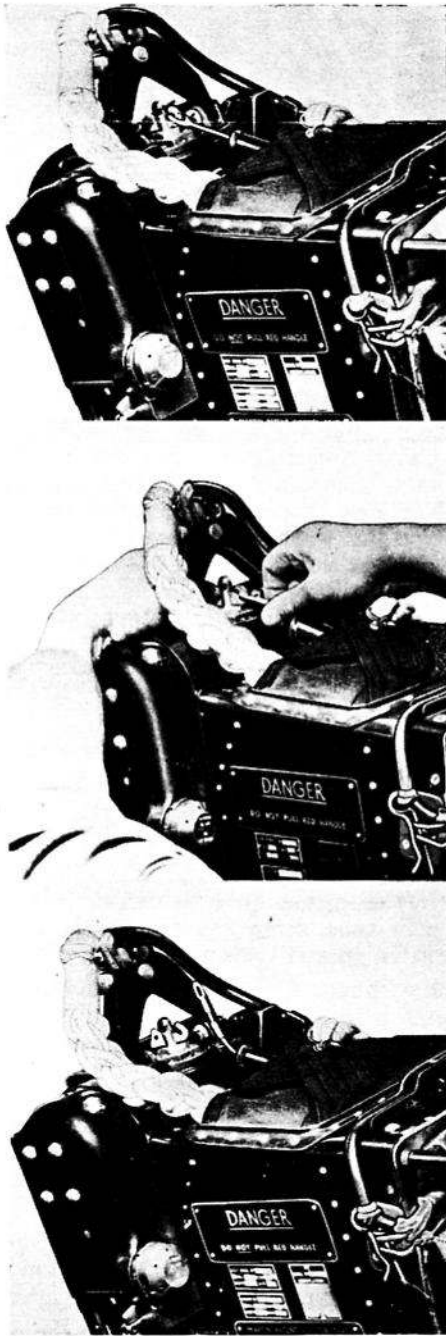

Fig. 2. Disconnecting firing cable from sear
- (2) Ease the firing sear forward by hand (fig. 2), and disconnect the eye end of the firing cable; the sear will automatically slide back to its original position.